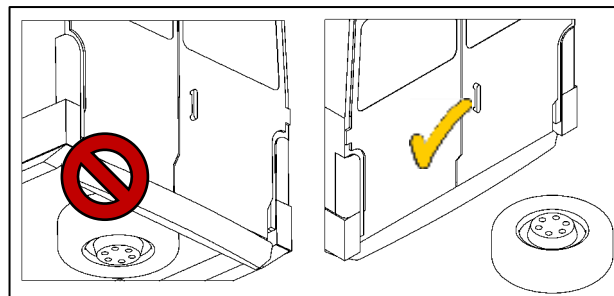

Fig. 7
- If the vehicle has a spare tire between the rear axle and the rear bumper, remove the tire (see Fig. 7).